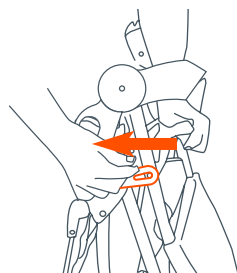
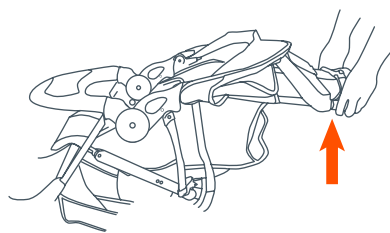

Fig. 20a
Fig. 20b
20) • Unlock the release lever (Fig. 20a) and unfold stroller frame by pulling backward on the stroller handle until the frame locks (Fig. 20b).